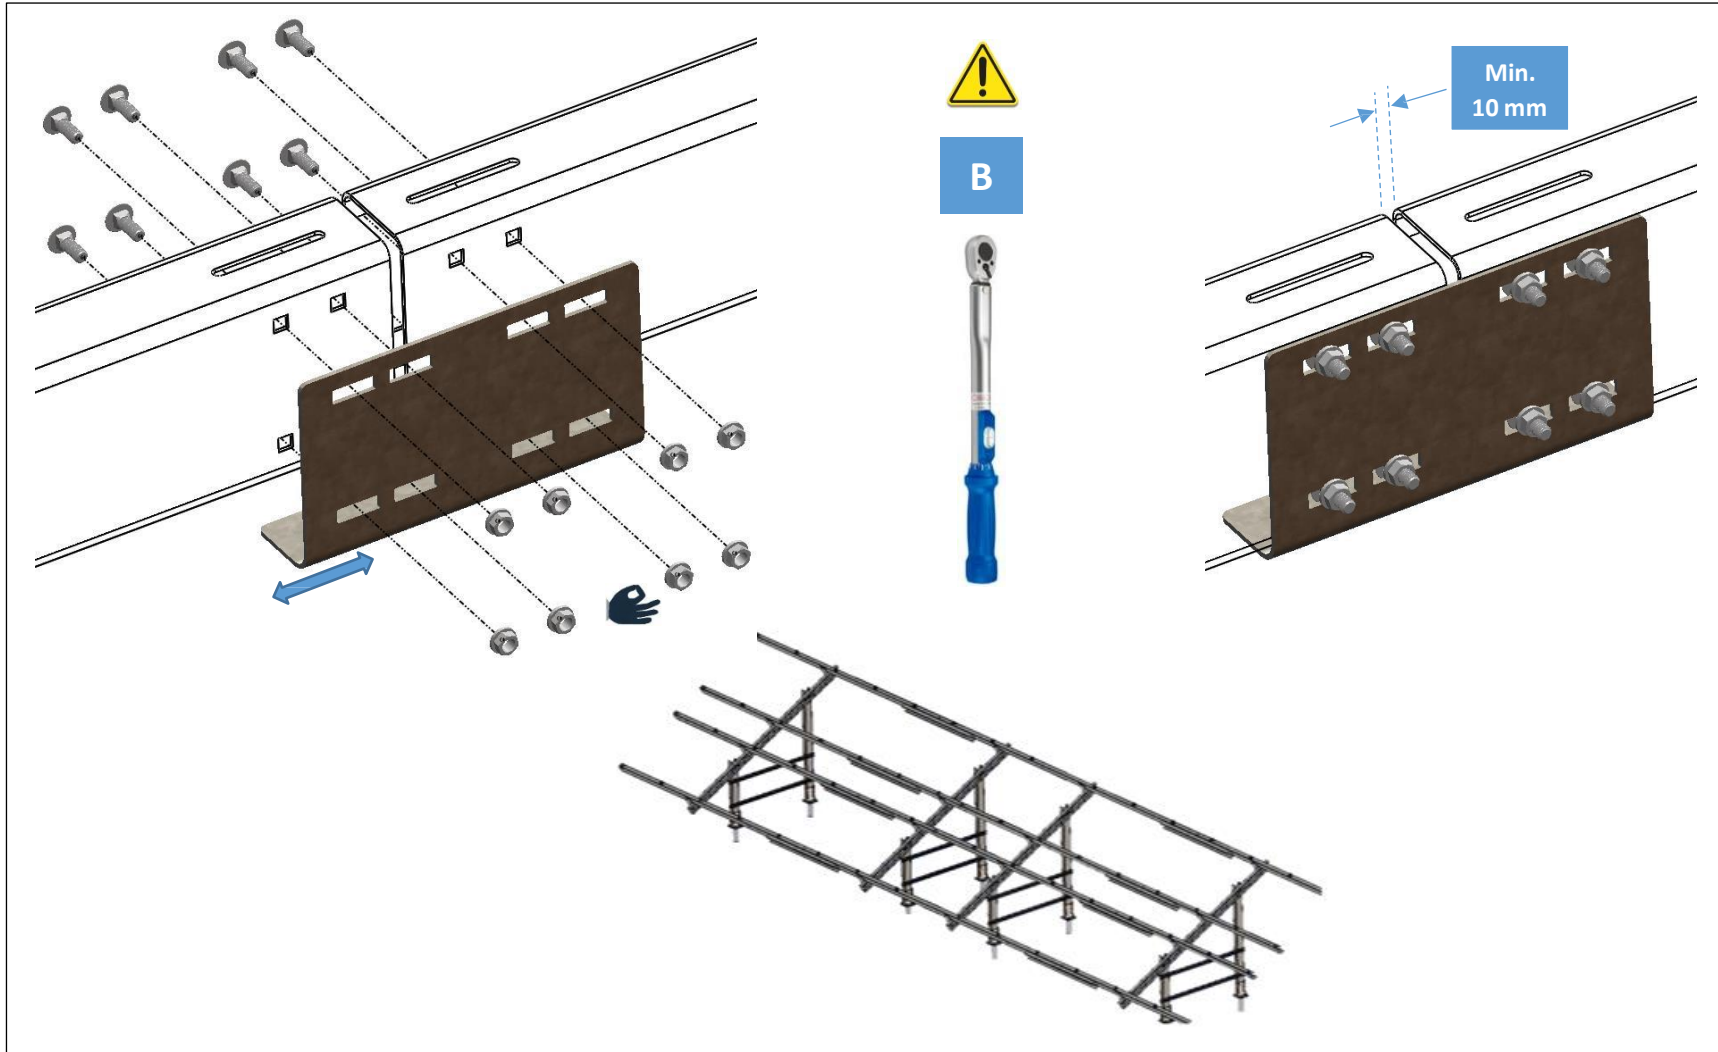

Figure 17: Complete rack (table)
Step Four Mate kit's east-west beams with splice plates, using eight (8) 3/8"–16 Carriage Bolt, 1" Length, Grade 5, Magni 565 Coated or HDG and eight (8) 3/8"–16 Serrated Flange Nut, Grade 5, Magni 565 Coated or HDG per splice as shown in figure 17, Leaving minimum 10 mm gaps between East-West beams. After all beams and splices are in place and adjusted, torque fasteners as per specification shown in Section 2-b of this document. Some tables do not require splice plate connections (Refer to construction drawings).